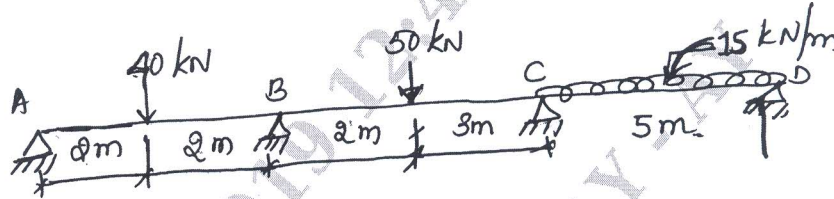

Fig Q8
- 8 Analyze the continuous beam shown in Fig Q8. Using three moment equation and Draw SFD and BMD.